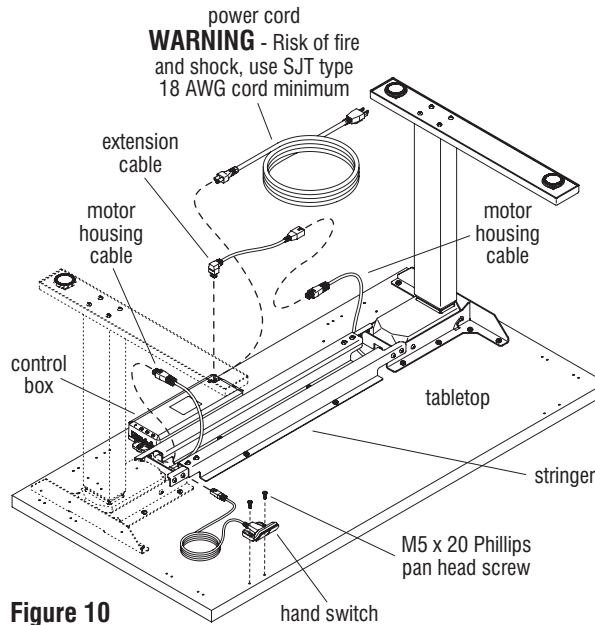

Figure 10
15. Route the motor housing cable closest to the control box to the back, non-user side of the table through the opening formed by the motor housing and the stringer. Plug the end of the cable into the open socket marked M1 or M2 (Figure 10 & Details N & O).
16. Route the motor housing cable farthest from the control box to the back, non-user side of the table through the opening formed by the motor housing and the stringer. Plug the end of the motor housing cable into the extension cable in order to reach the control box. Plug the angled end of the extension cable into the open socket marked M1 or M2 (Figure 10 & Details N, P, & Q).
17. Align the mounting holes of the hand switch with one of the two sets of pre-drilled mounting hole locations on the front, user side of the tabletop as illustrated (Figure 10 & Details R & S). Secure the switch to the tabletop with two M5 x 20 Phillips pan head screws at 1.5 ft/lb. Do not overtighten the screws (Figure 10 & Details R & S).
18. Route the end of the hand switch cable to the back, non-user side of the table through the openings formed by the motor housing and stringers. Plug the end of the hand switch cable into the open socket end marked HS (Figure 10 & Detail T).
19. Plug the power cord into the open socket marked AC. **Do not plug the power cord into a power source at this time** (Figure 10 & Detail U).